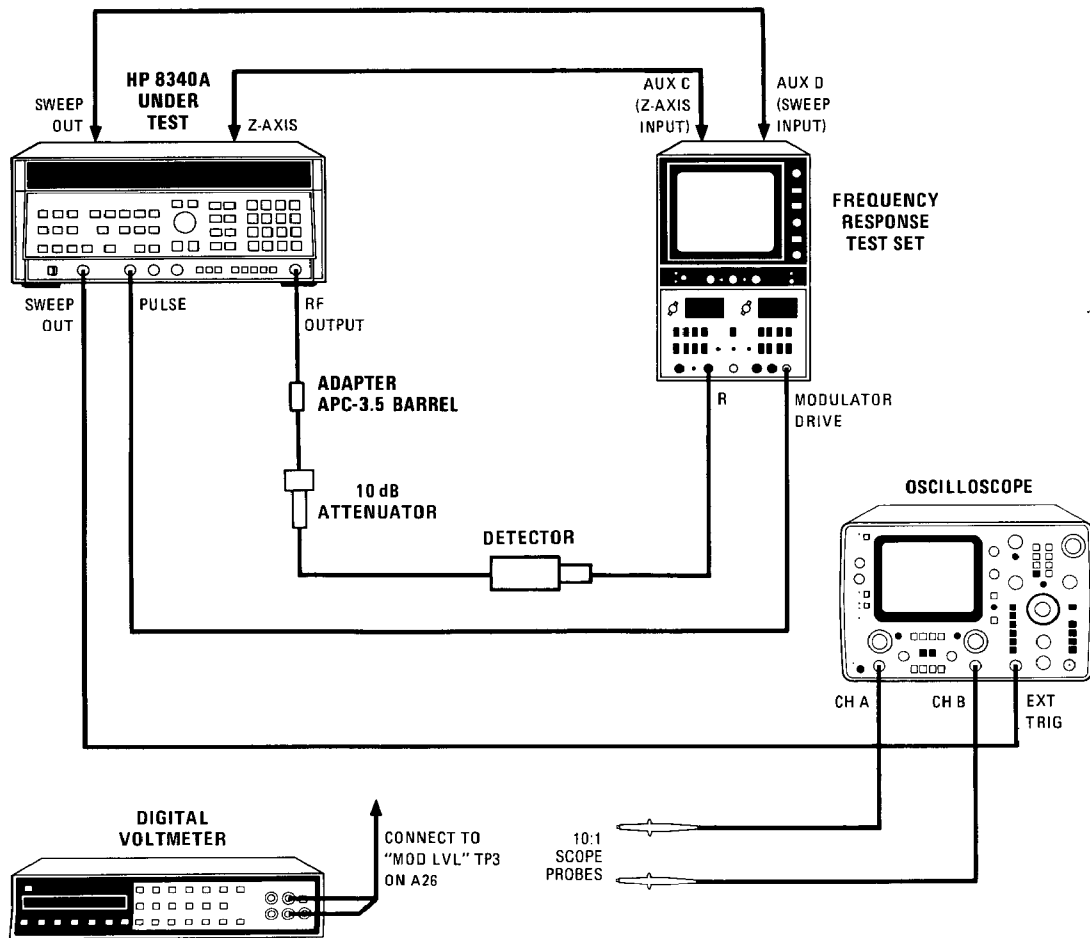
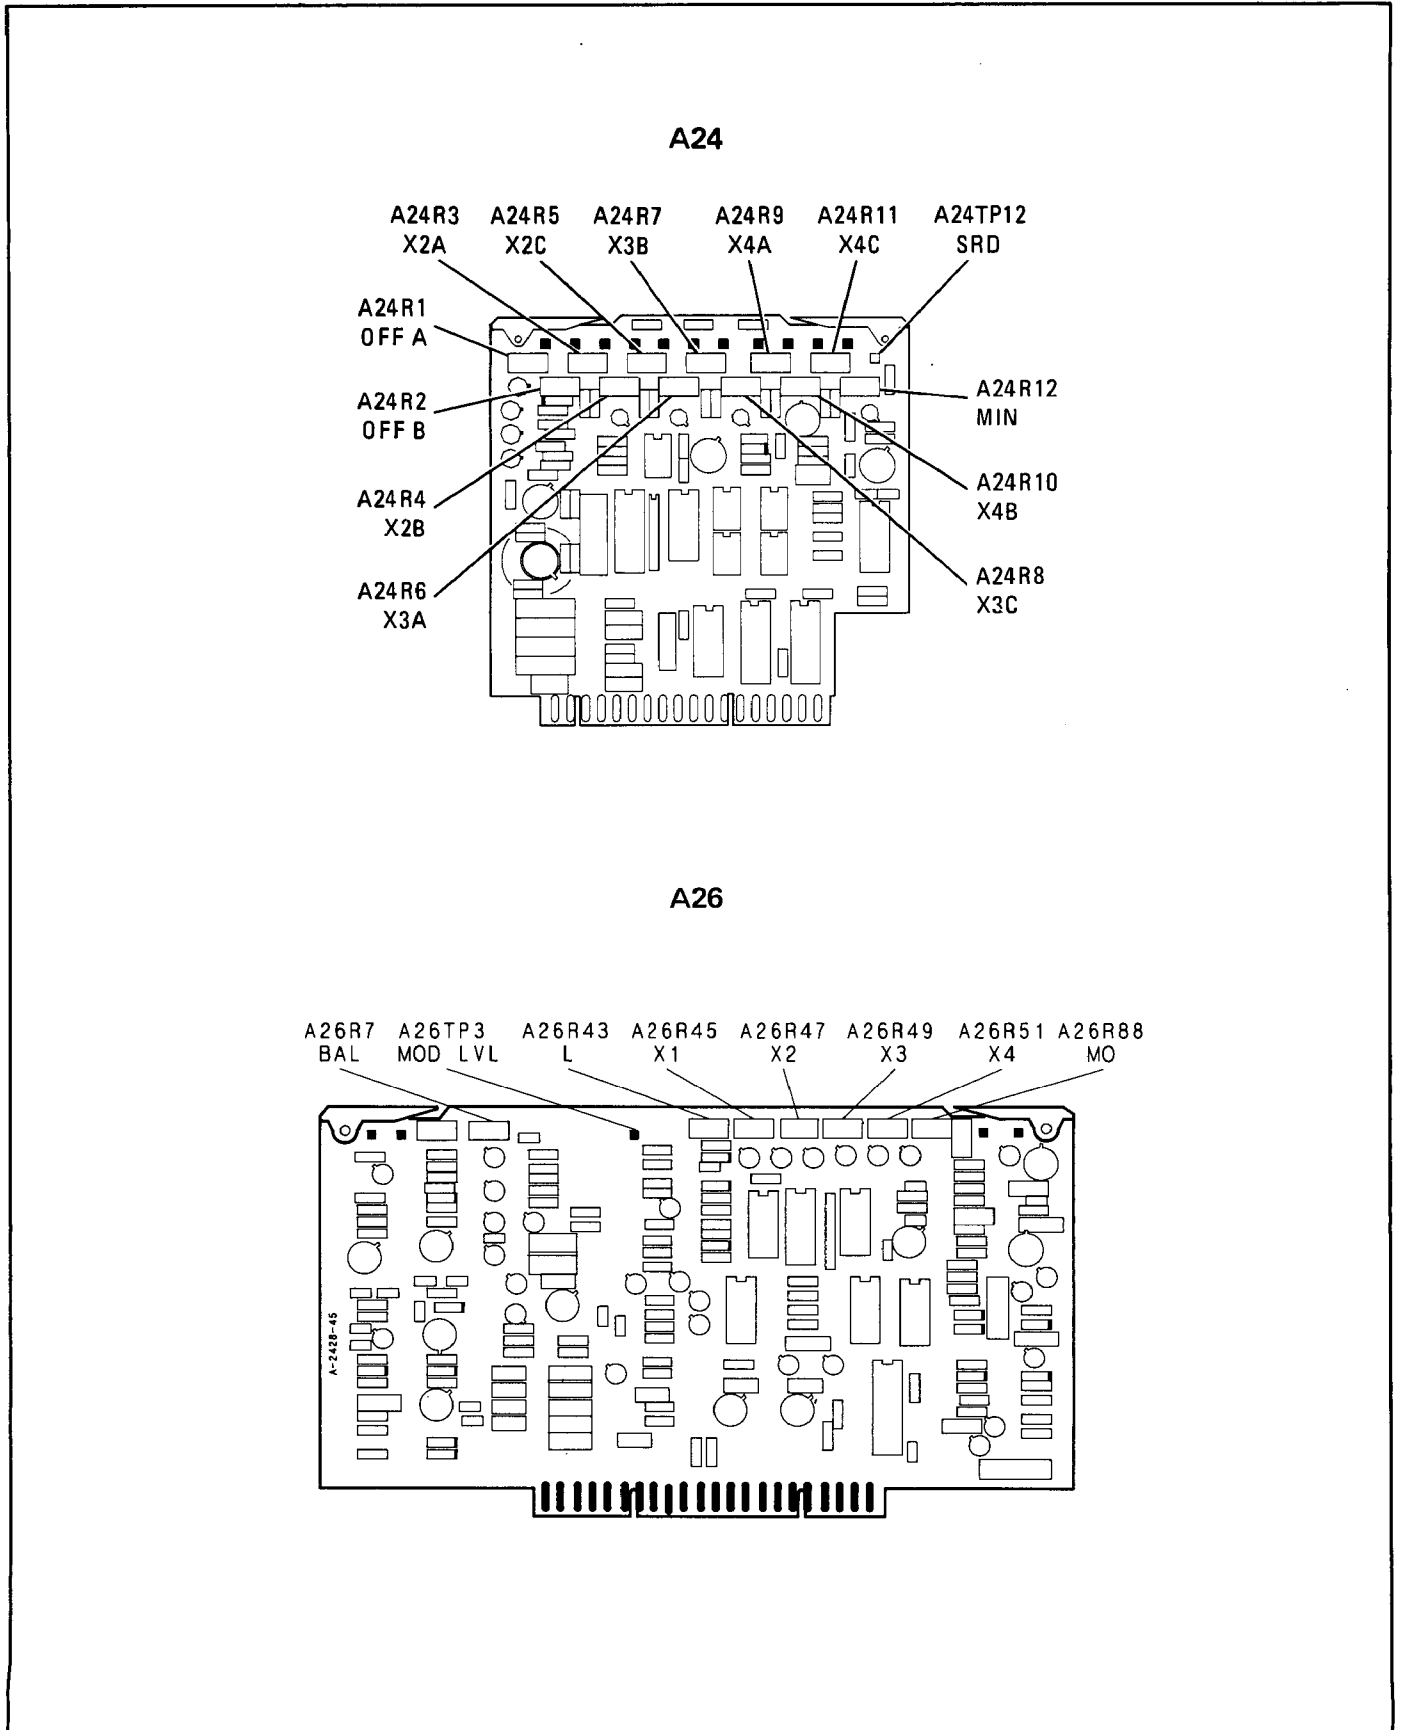

Figure 5-49. Leveled Power SRD Bias Adjustment Test Setup
Figure 5-50. SRD Bias Adjustments on A24 and A26
1. Connect equipment as shown in Figure 5-49. Connect the DVM to A26TP3 (MOD LVL). Preset A26R88 (MO) fully clockwise (Figure 5-50). Allow at least 30 minutes warm up.
3. Adjust the front panel rotary knob for a DVM indication of 0.00 volts, then note the POWER dBm display indication. Adjust A26R88 (MO) CCW to decrease the POWER dBm indication by 0.2 dB.
Set A24R1 (OFF A) (Figure 5-50) and A24R2 (OFF B) controls fully counter clockwise.
15. Remove oscilloscope probes from the 8340A. Connect the 8340A to the 8755C as shown in Figure 5-49. Press 8340A **[INSTR PRESET]** and **[RECALL] [2]**. Press **[SHIFT] [PWR SWP]** and enter **[2] [0] [dBm]**. Press **[PULSE]** modulation to turn it on. Press **[SWEEP TIME] [AUTO]**.